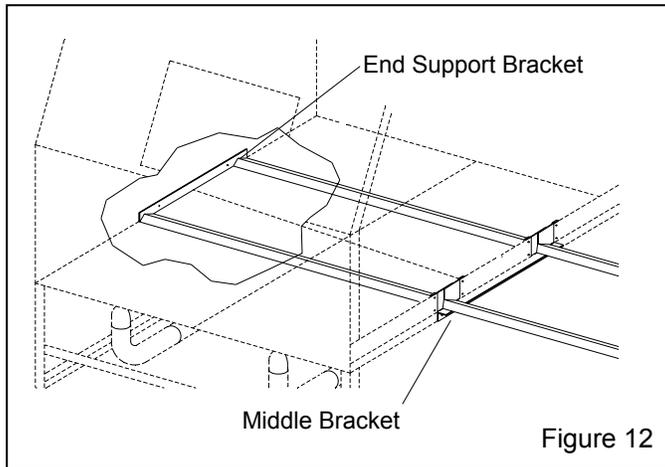

Figure 12
**3.4.3.3** Push the track assembly to its final position; the end support bracket should be against the inside cabinet wall, and the middle bracket against the outside wall under the door opening, as shown in Figure 12.